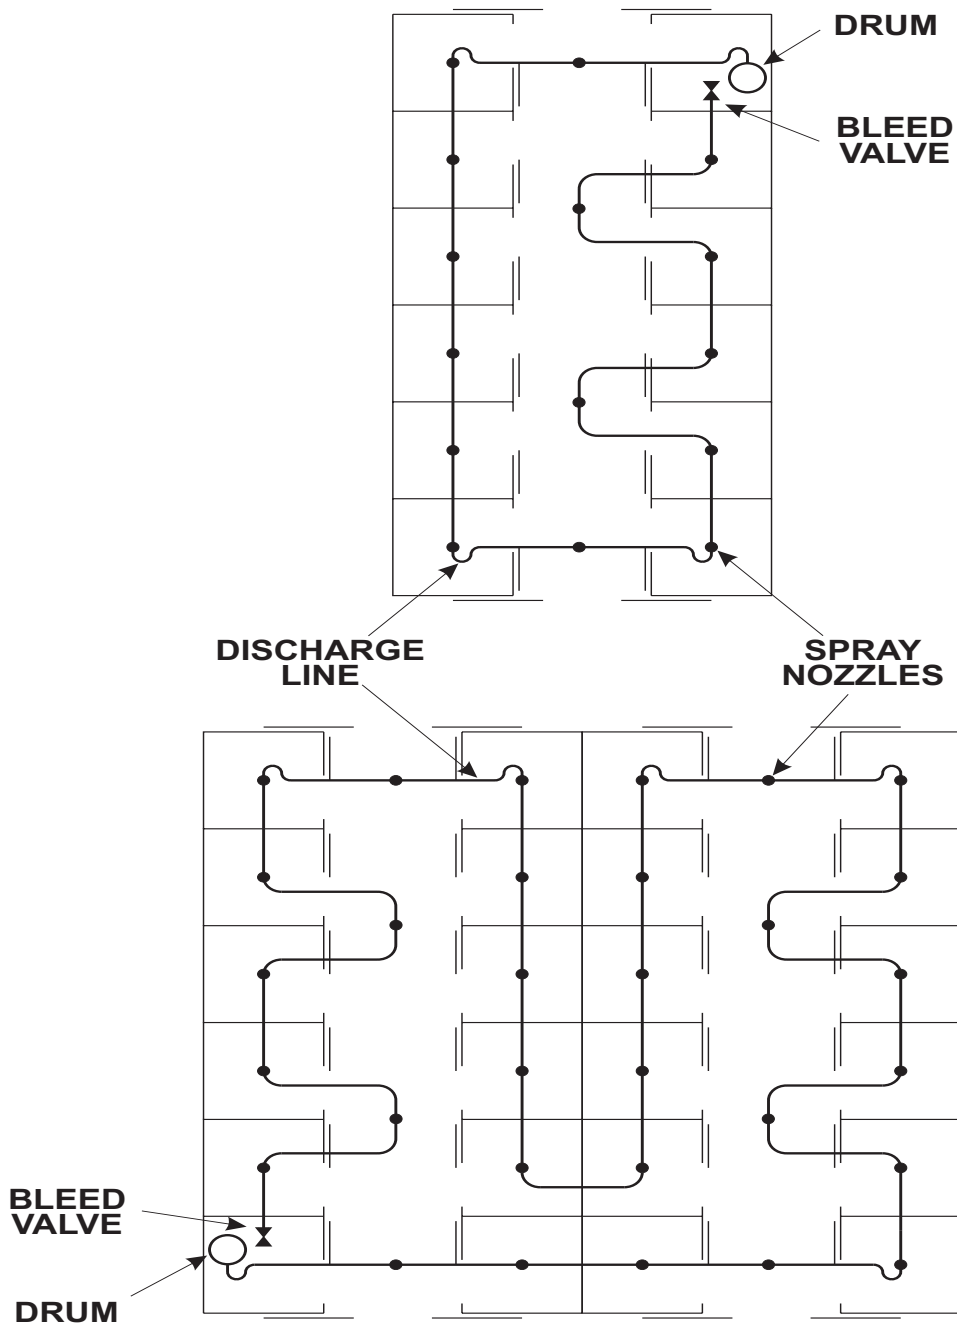

Figure 4 – Sample Barn Diagrams
- Remove the spray nozzles from package. Using the barn diagrams as a guide (figure 4), run the ¼ inch nylon tubing on the ground around the stall area to be treated, beginning at the tank.